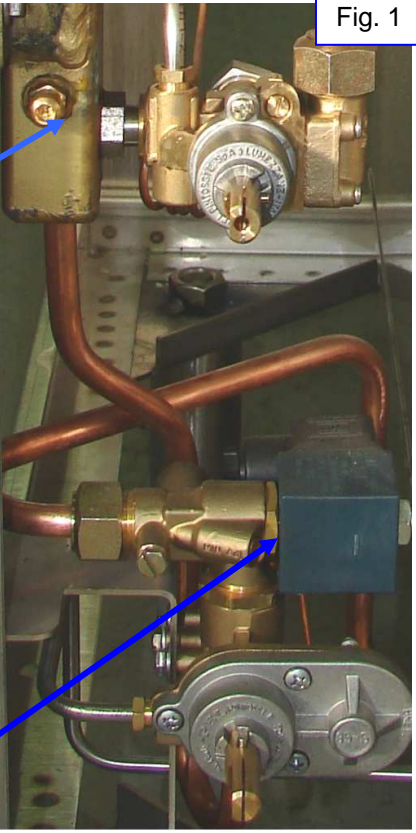

Fig. 1
<p>Unscrew the two fixing screws located at the right and left hand sides (see Fig.1 & 2) to release the fixing fasteners (see Fig. 3).</p>	<p>Fig. 1</p>
<p>Install the flue above the space reserved for it and slide the fixing fasteners underneath the top of the appliance. Screw the two screws to fix the flue (see Fig. 1 & 2).</p>	<p>Fig. 3</p>
- Connect the pressure outlet on the pressure outlet located on the ramp (see figures 1 & 2),